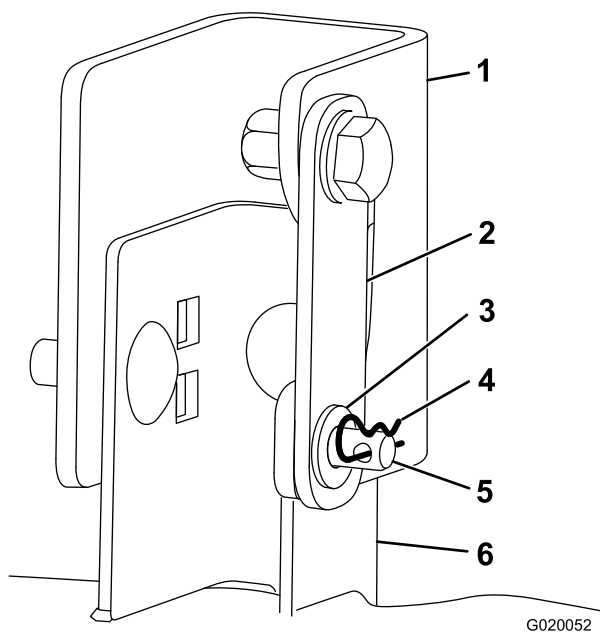

Figure 35
7. Remove the hairpin cotter and washer from the clevis pin in the hanger bracket and deck support bracket on one side of the mower deck. Repeat for the other side (Figure 34 and Figure 35).
8. Swivel each deck support bracket so that the hole in the loose end aligns with the hole in the hanger bracket (Figure 35).
9. Install the clevis pin through the brackets on each side; then install the washers on the clevis pins and hairpin cotters through the clevis pins (Figure 35).
8. Lift the rear of the deck slightly to take the pressure off of the cotter pins, and remove them (Figure 34 and Figure 35).